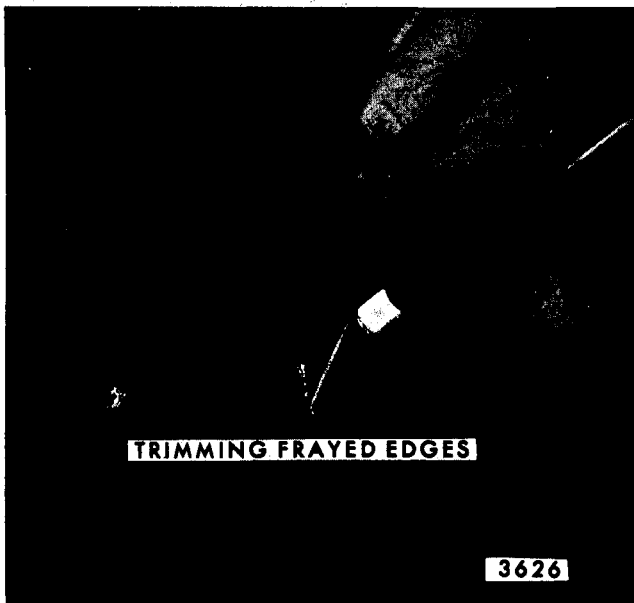

Fig. 11-16-Fabric Roof Cover Repair Trimming
- c. Using a razor knife, trim the damaged area to remove all frayed or damaged edges (Fig. 11-16).